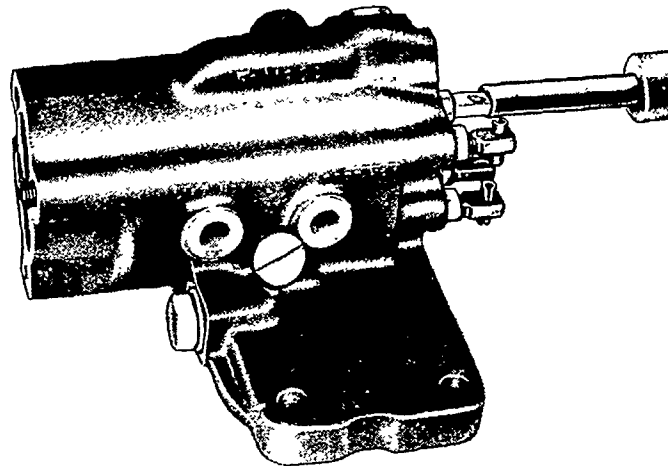

Figure 16
2. Tap the spool(s) on the handle end to force out the valve end cap(s). See Figure 16. Remove the spool(s) through the front of the valve body. Tag each spool for its correct bore as each is of selected fit.